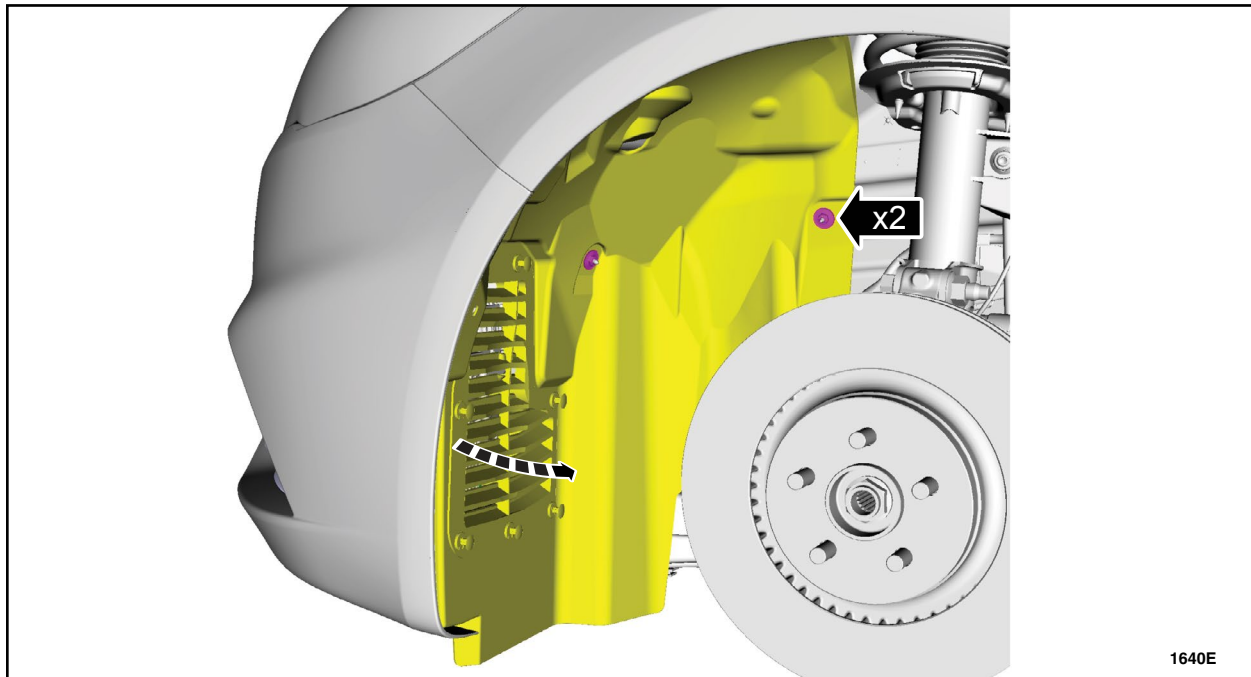

FIGURE 3
4. Remove the two nuts and position both front fender liners aside. See Figure 3.